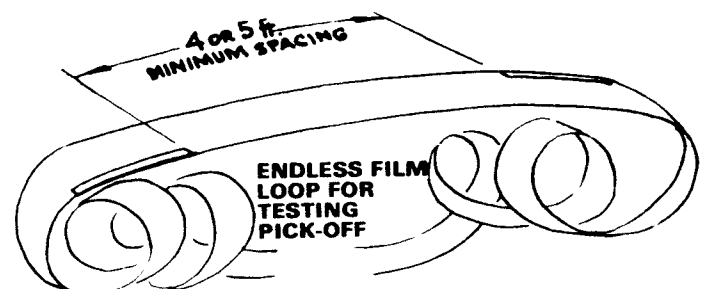

FIG. 5
11. Make a test loop of film, as shown in Fig. 5.